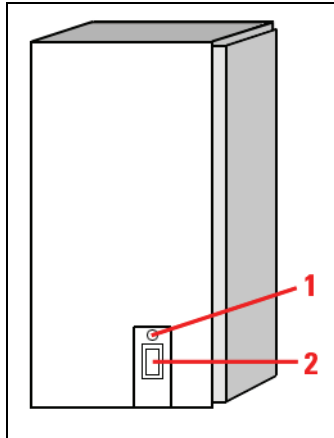

Figure 73: Microscope electronics box
5. Turn on the microscope by actuating the electronics box toggle switch (**Figure 73, item 2**). The microscope is operational once the readiness indicator (**Figure 73, item 1**) on the toggle switch is lit up.